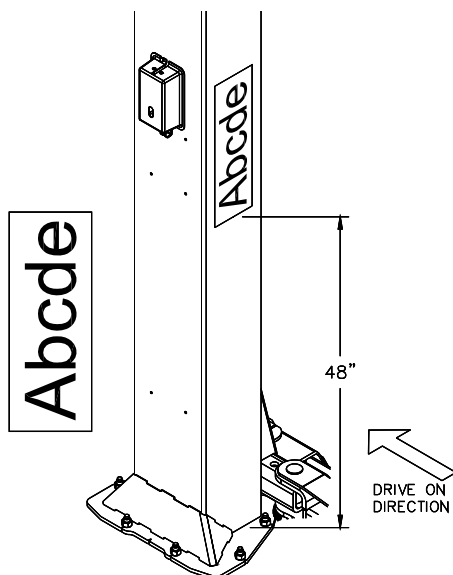

Fig 9 – Decal Placement
- 39) Apply the decal 48" from the top of the base plate, **Fig 9**.